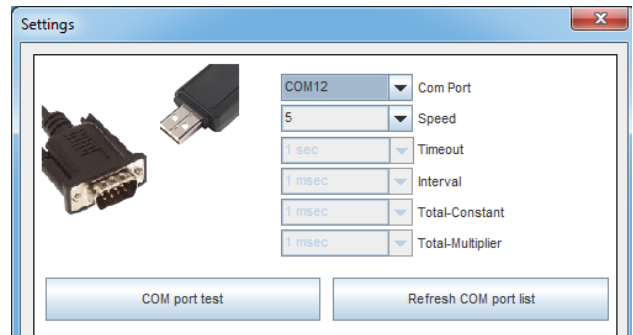

Fig. 2-2
- ▶ Adjust interface in the menu "transmission-interface" (Fig. 2-2), see designer manual.